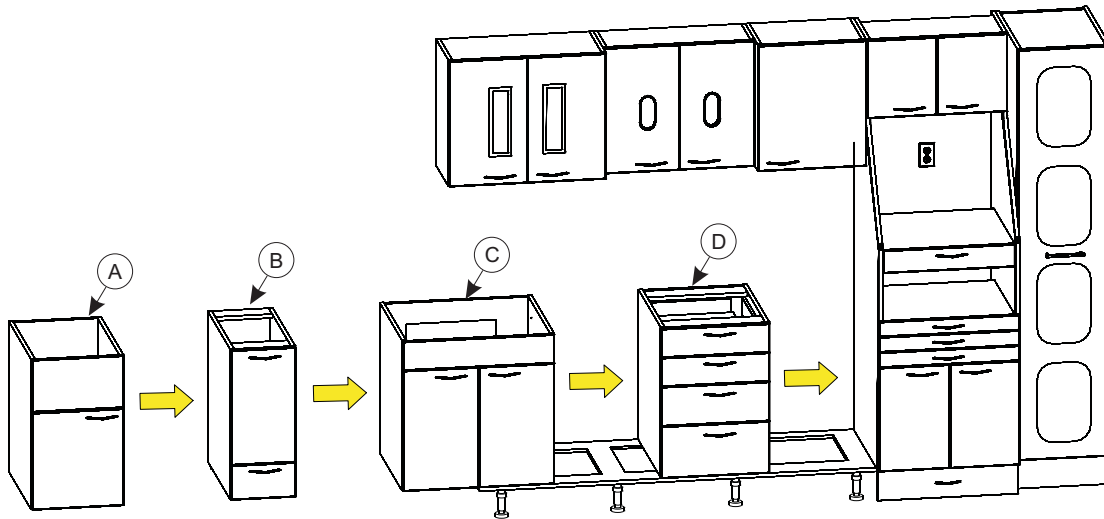

Figure 8
Place the cabinets (A thru D) into the proper location (using fillers where needed) (see Figure 8). Using supplied #6 x 1-1/2" wood screws mount each lower cabinet to cabinet base with (4) wood screws each.